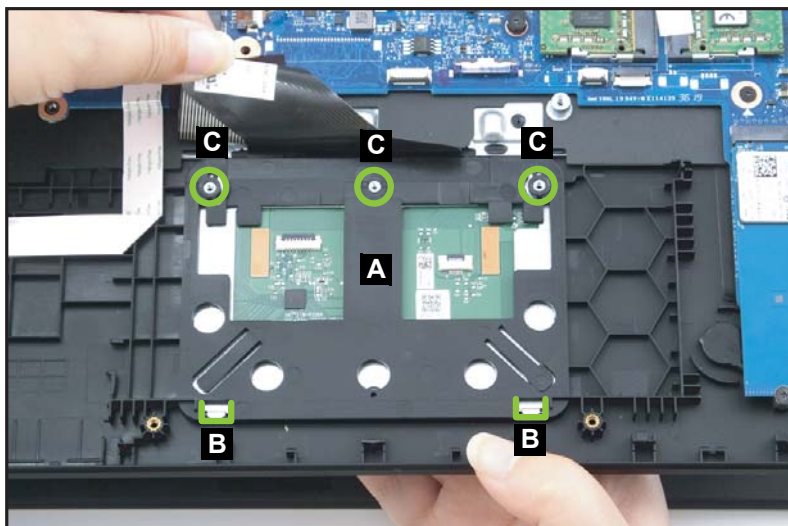

Figure 1-99. Replacing the Touchpad Module
1. Slightly lift the keyboard FPC and slide the touchpad module (A) into the bottom latches (B) until those are fully engaged (Figure 1-99).
2. Ensure that the touchpad module (A) is properly aligned with the guide pins (C), push the touchpad module firmly onto its slot until it is fully seated in place (Figure 1-99).